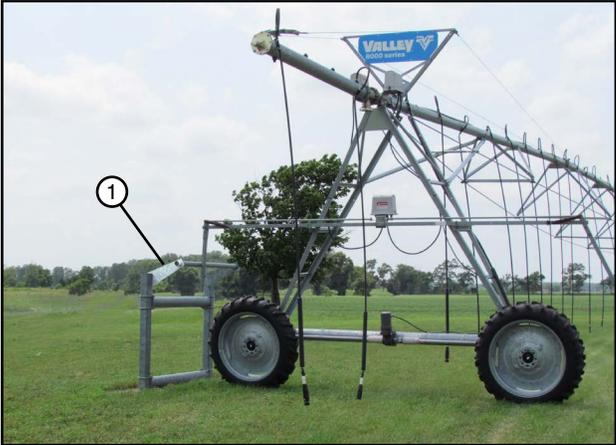

Figure 29-3 1. End of Field Stop Barricade
- PHYSICAL END OF FIELD STOP BARRICADES MUST BE INSTALLED ON ALL PART CIRCLE MACHINES. THE PHYSICAL BARRICADE SERVES AS A BACK UP IN CASE THE CIRCUITRY OF THE PIVOT MOUNTED AUTO REVERSE OPTION SHOULD EVER FAIL. SEE FIGURE 29-3.